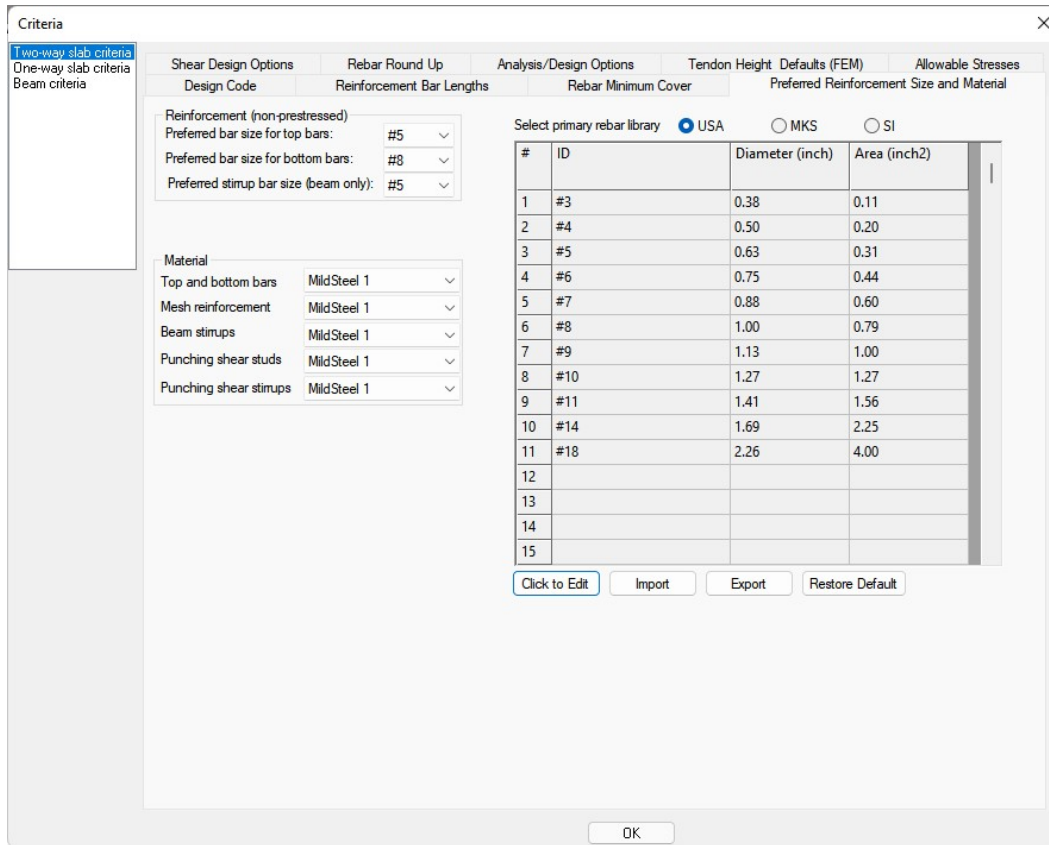

Figure 2.2-4 - Criteria: Preferred Reinforcement Size and Material tab
- Click on the **Preferred Reinforcement Size and Material** tab. This will open the window from **Figure 2.2-4**.